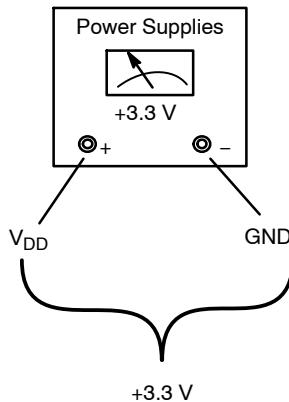

Figure 2. Single Power Supply Configuration
Connect a single power supply to the evaluation board. (see Figure 2); Connect  $V_{DD}$  to +3.3 V, Connect GND to 0 V.
- a.. Connect a single power supply to the evaluation board. (see Figure 2)